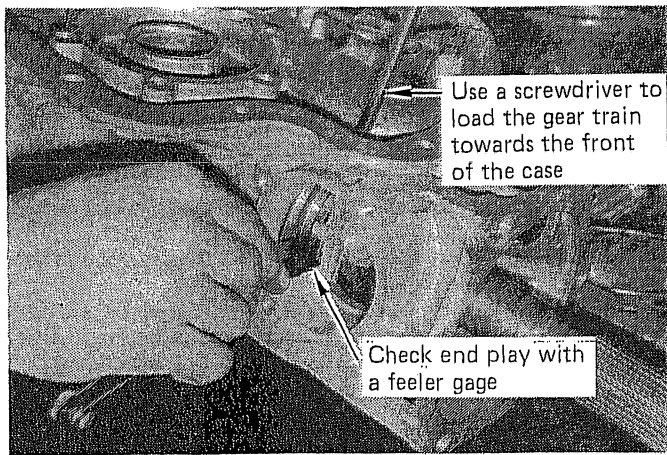

FIGURE 46
**STEP 11.** Insert a screwdriver into the rear portion of the case and load the output shaft forward. Insert a feeler gage between the four tab thrust washer and the three prong selective thrust plate. (See Fig. 46) End play should be 0.007 - 0.019". Adjustment can be made by different thickness thrust plates available from your GM dealer.